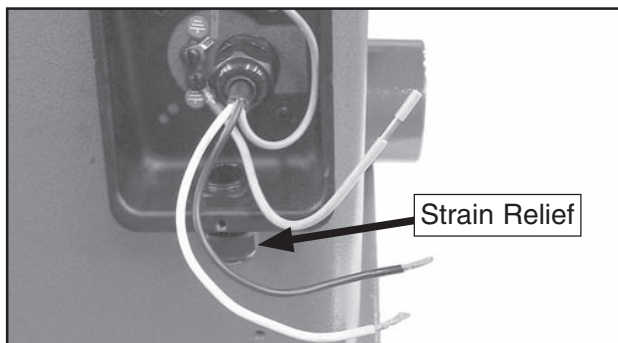

Figure 46. Power connection junction box.
2. Loosen the strain relief on the bottom of the junction box shown in **Figure 46**, then insert the incoming power wires into the junction box.